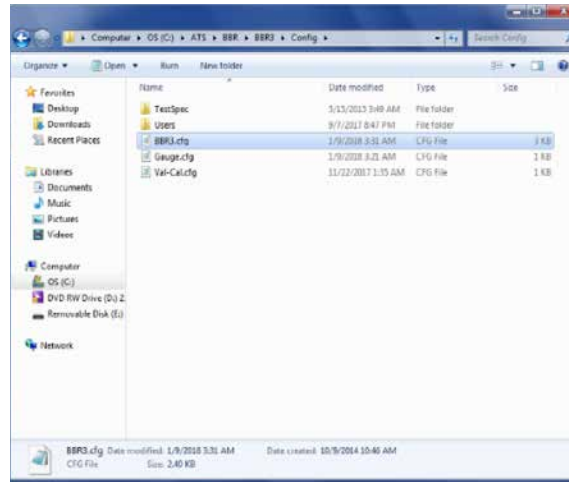

Figure D.10 - Pathway to the File
- The Serial Number information for the BBR is stored in the BBR2S.cfg file. , which is located inside of the config. directory in the BBR2S program file directory in the ATS folder on the computer's C: drive. Figure D.10 shows the pathway to this file. The file can be opened for editing or viewing using the Notepad application in Windows®.